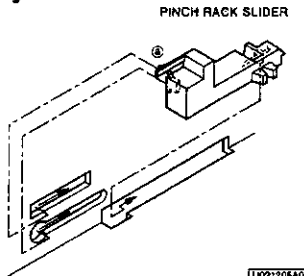

Fig. 2-12-5
- Move the PINCH RACK SLIDER in the direction shown by the arrow as shown in Fig. 2-12-5.
RACK SLIDER enters the hole of the MAIN PLATE ASSY as shown in Fig. 2-12-5.